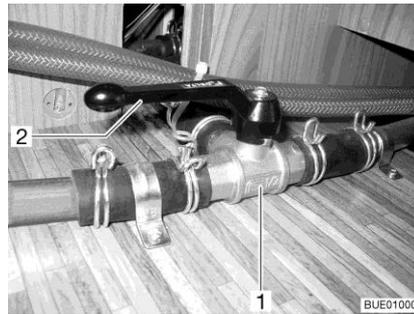

Fig. 216 3-way valve
- Set the lever (Fig. 216,2) of the 3-way valve (Fig. 216,1) parallel to the straight flow direction (Fig. 216).
- Set the lever (Fig. 216,2) of the 3-way valve (Fig. 216,1) transverse to the straight flow direction.